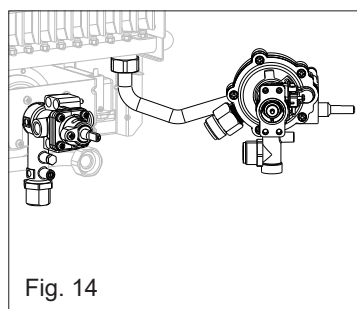

Fig. 14
- Turn to the right the water/gas group as shown in fig. 14